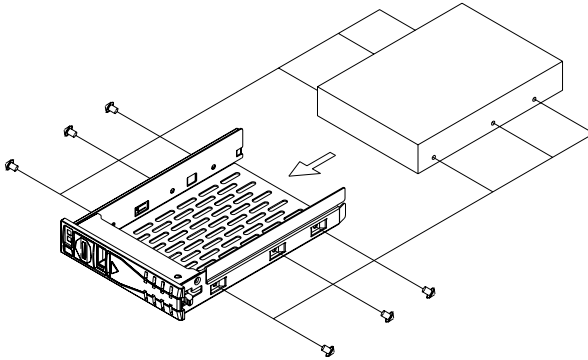

Figure 2.6: Installing a SATA HDD
2. Refer to Figure 2.6 and slide one hard disk drive into the proper location in the tray and fix it with 4 ~ 6 screws.